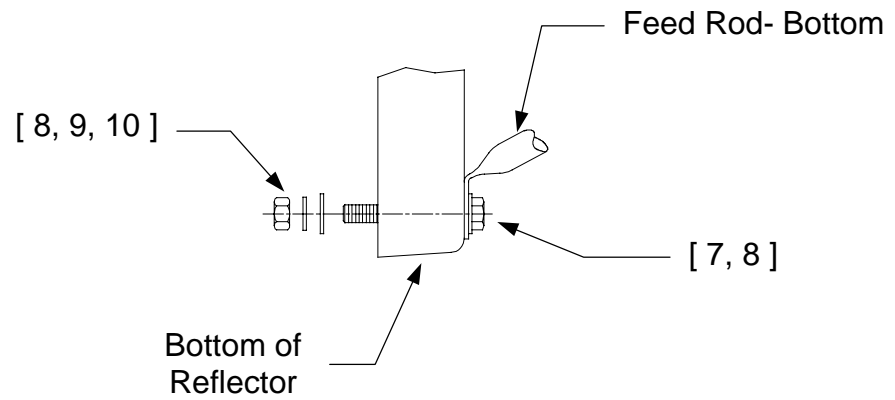

**FIGURE 2**
Attach right and left feed rods to the reflector with (items 7, 9,10 ) and with (2) of ( item 8 ). Do not tighten See Figure 2 and Detail A.